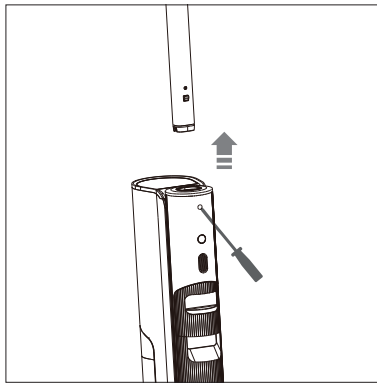

Fig. 20 – Removing the handle
- ▶ Use a suitable tool (e.g. a screwdriver) to press into the small opening below the handle and pull the handle upwards to remove it (see Fig. 20).